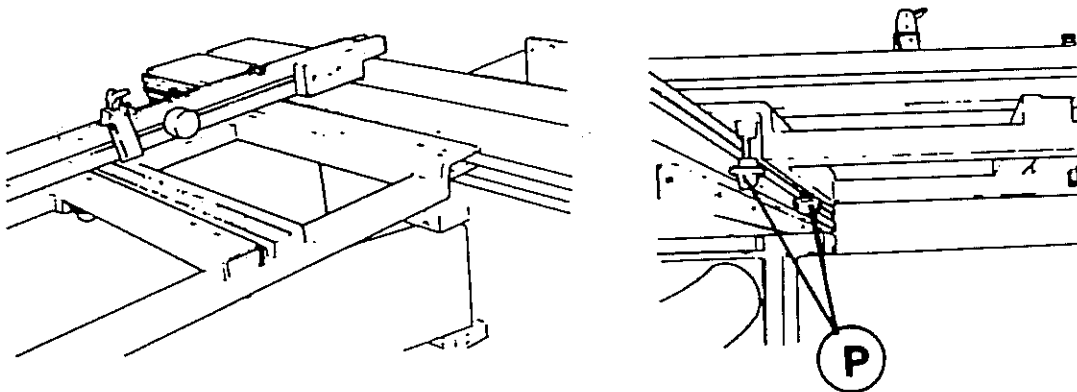

Fig.6
- 3) Lock the frame by knobs (P fig.6)